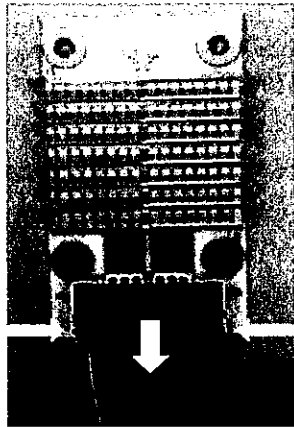

Figure 4a.
5. If user wants to disassemble connector wire, please push clamp pin of connector and pull connector back as figure 4a. Please don't pull wire directly. And if user wants to assemble connector, please push connector into the connector housing as figure 4b.